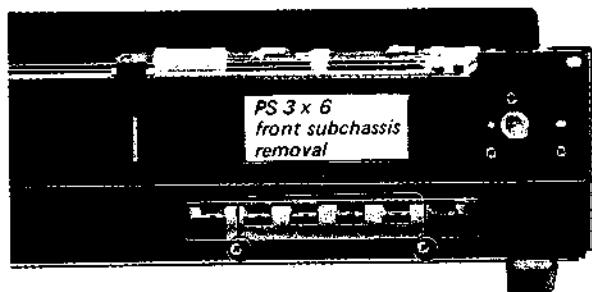

Fig. 2-8. Front subchassis removal
3. Remove the two screws shown in Fig. 2-8. This frees the front subchassis with dial cord.